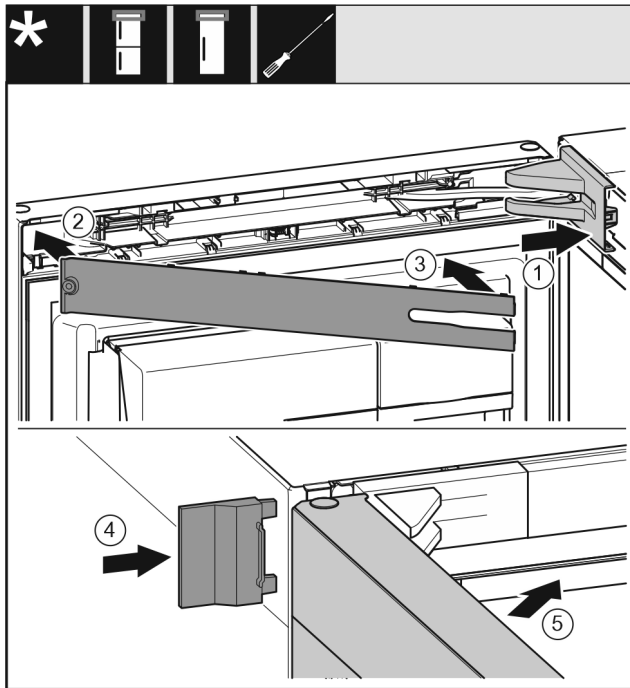

Fig. 44
- ▶ Put the swap bearing block cover Fig. 44 (1) on and engage, push apart carefully if required.
- ▶ Fit the trim Fig. 44 (2).
- ▶ Swivel in the cover Fig. 44 (3) and engage.
- ▶ Push the outer cover Fig. 44 (4) on.
- ▶ Close the upper door Fig. 44 (5).